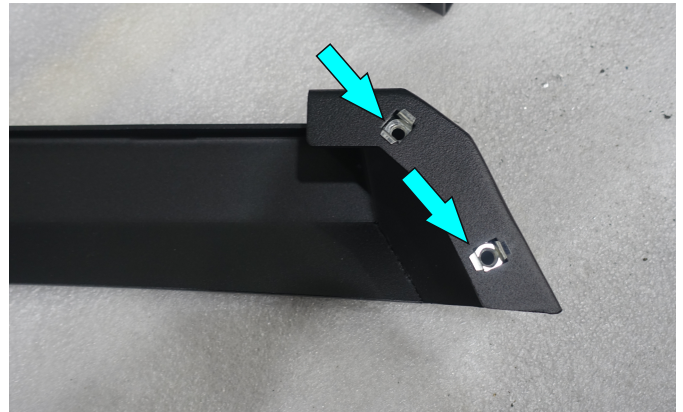

Fig.83
81. Install cage nuts M8 (item F) on lightbar cap (item 3) as shown on fig.83.